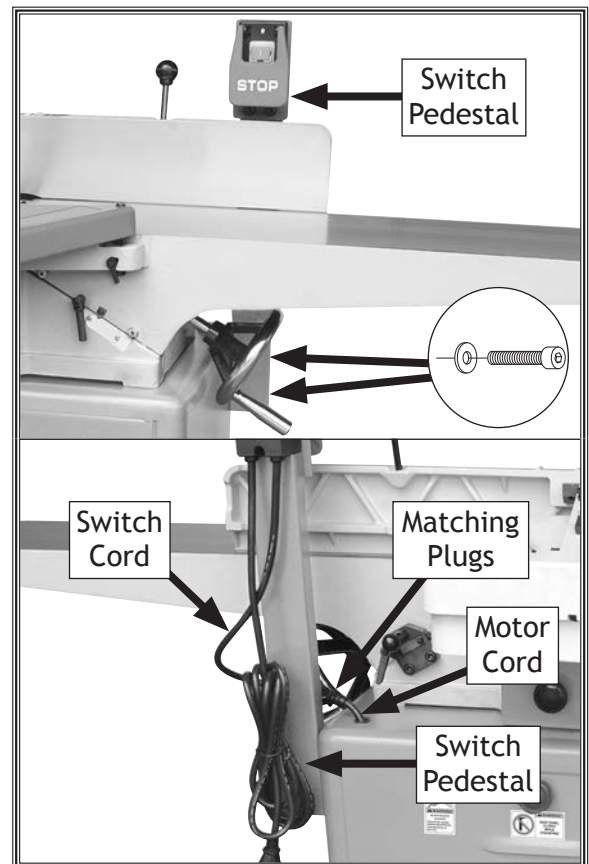

Figure 18. Switch pedestal attached to stand and cords connected.
17. Attach switch pedestal to stand with (2) M8-1.25 x 70 cap screws and (2) 8mm lock washers (see Figure 18).
18. Connect switch cord to motor cord (see Figure 18).